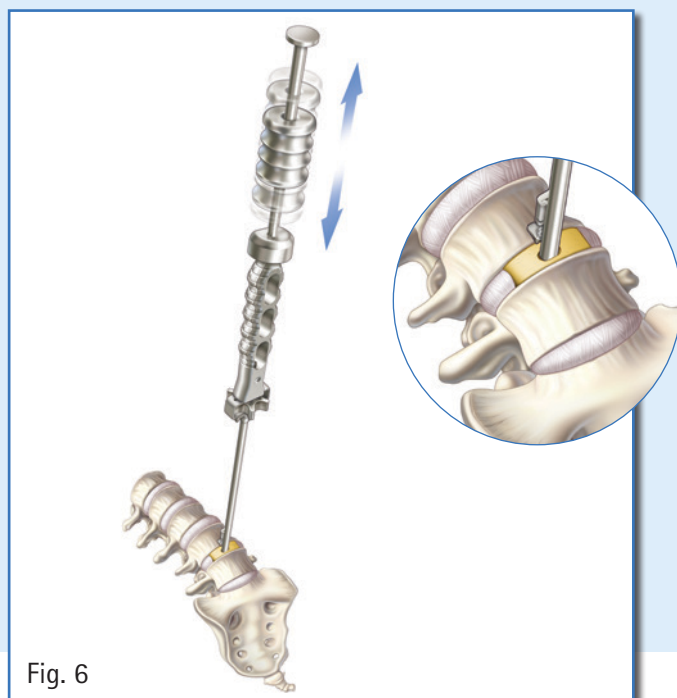

Fig. 6
- Reference the midline marker and utilize the slap hammer or mallet to gently advance the trial into the disc space (Fig. 6).